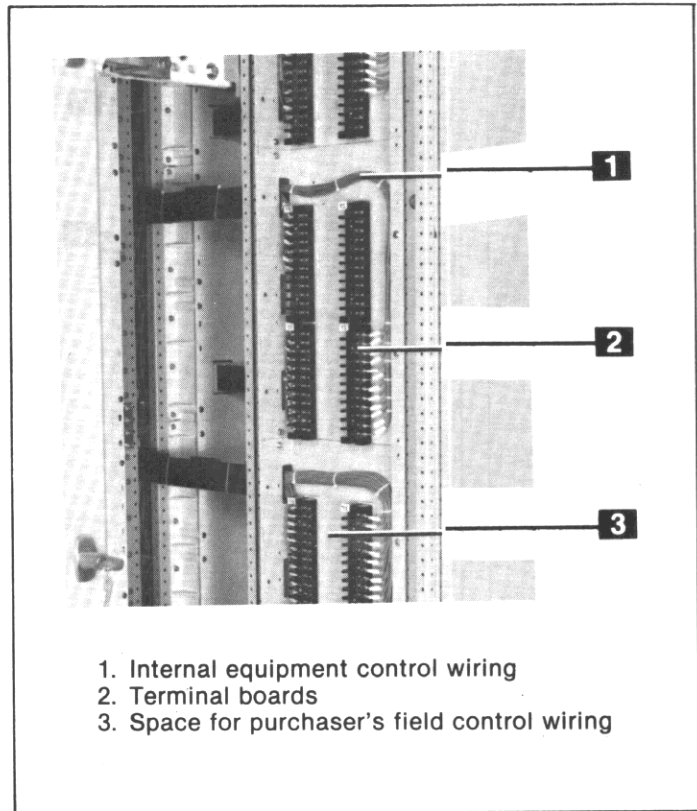

Fig. 3-29. Control wiring termination trough
Fig. 3-29. When furnished, the terminal boards (2), Fig. 3-29, for such connections are mounted in an enclosed vertical wiring trough mounted on the side of the cable compartment. The trough is of steel construction with bolted covers to provide an isolation barrier between the control wiring (1) and the adjacent power cables.